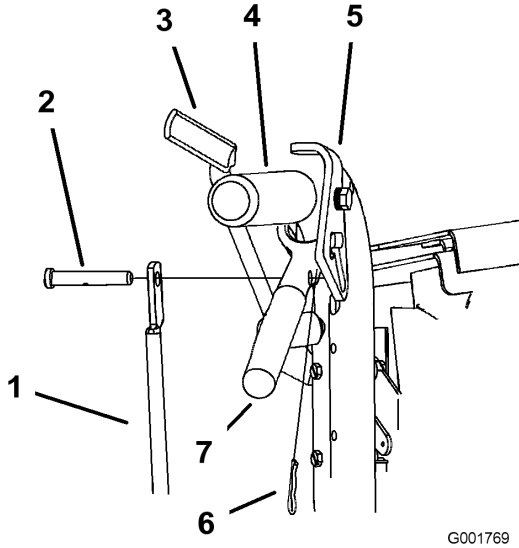

Figure 45
1. Remove the hairpin cotter pins and clevis pins from the drive levers and neutral locks (Figure 45).